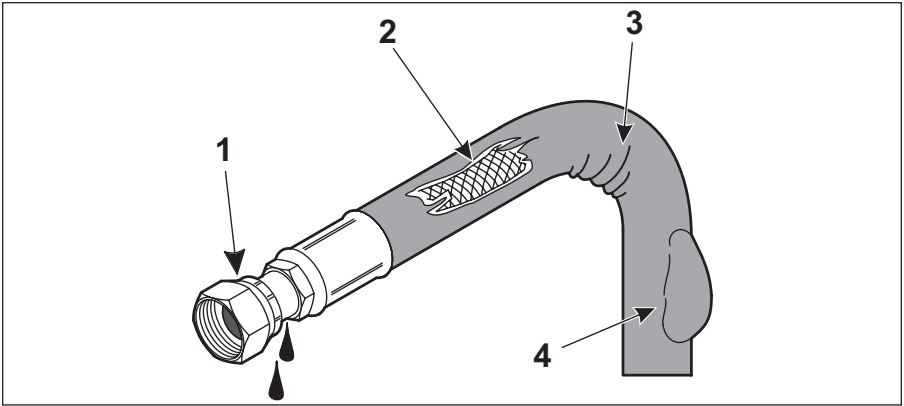
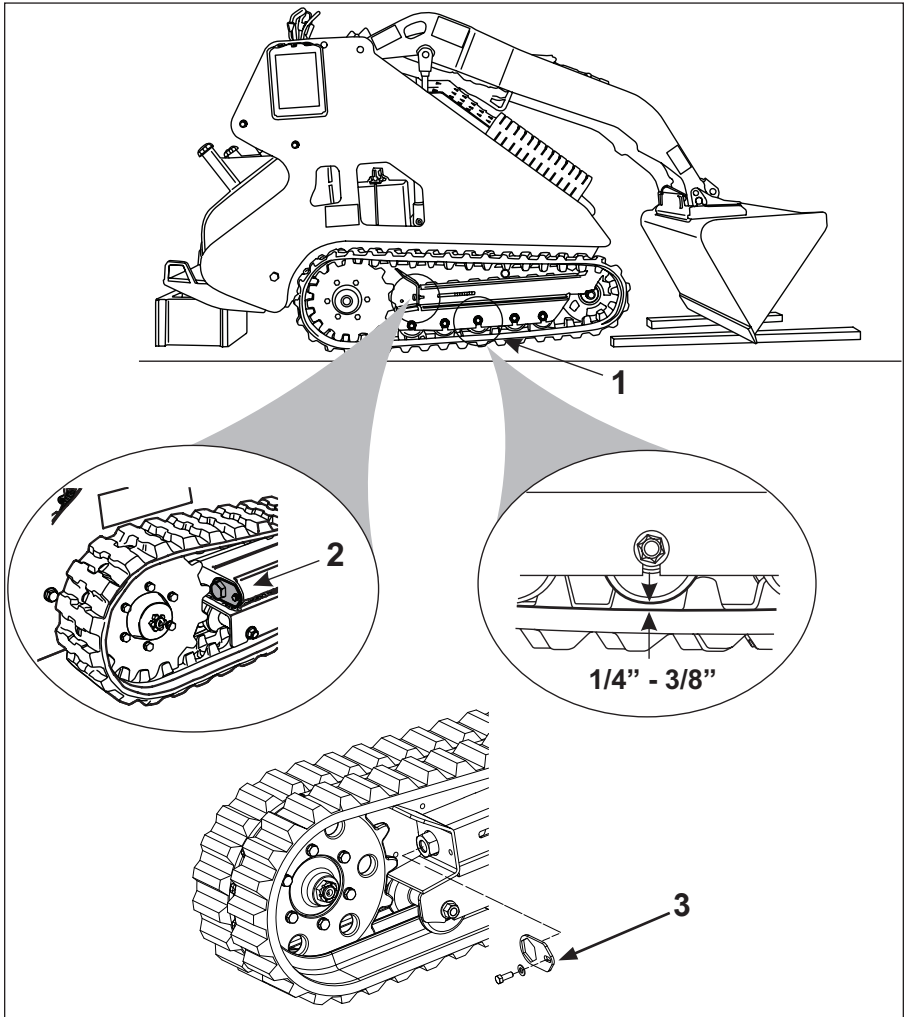

Figure 4-9 Hydraulic Hose Damage
Figure 4-11 Track Deflection Measurement and Adjustment
e. Some examples of common hydraulic hose damage are shown in **Figure 4-9**:
- a. Raise the machine off the ground and support it using a device capable of safely supporting 4000 lbs. (1820 kg) See **Figure 4-11** for suggested location of the support devices.
- b. Tilt the bucket downwards until the cutting edge is touching the ground. See **Figure 4-11**.
- d. Measure the gap between the bottom of the center bogey guide roller (Item 1, **Figure 4-11**) and the track. The proper tension will be about a 1/4" - 3/8" (6 mm - 10 mm) deflection.
- e. If an adjustment is needed, remove tension lock plate (see Item 3, **Figure 4-9**) then rotate the track tension adjustment nut (Item 2, **Figure 4-11**) until the proper track deflection measurement is achieved.